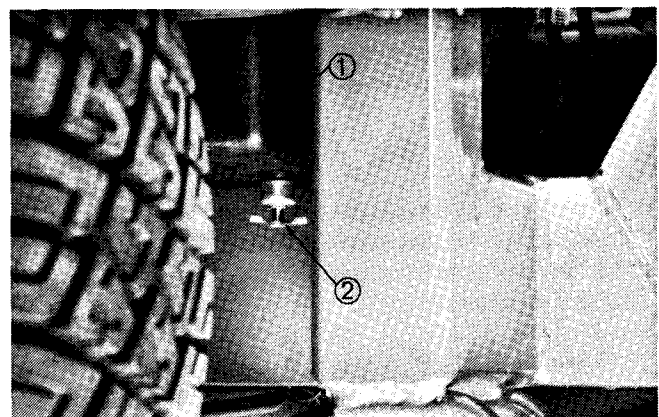

Figure 31
- 3. Capscrew (4)
7. Open drain valve on bottom of fuel tank and drain fuel from tank (Fig. 31).